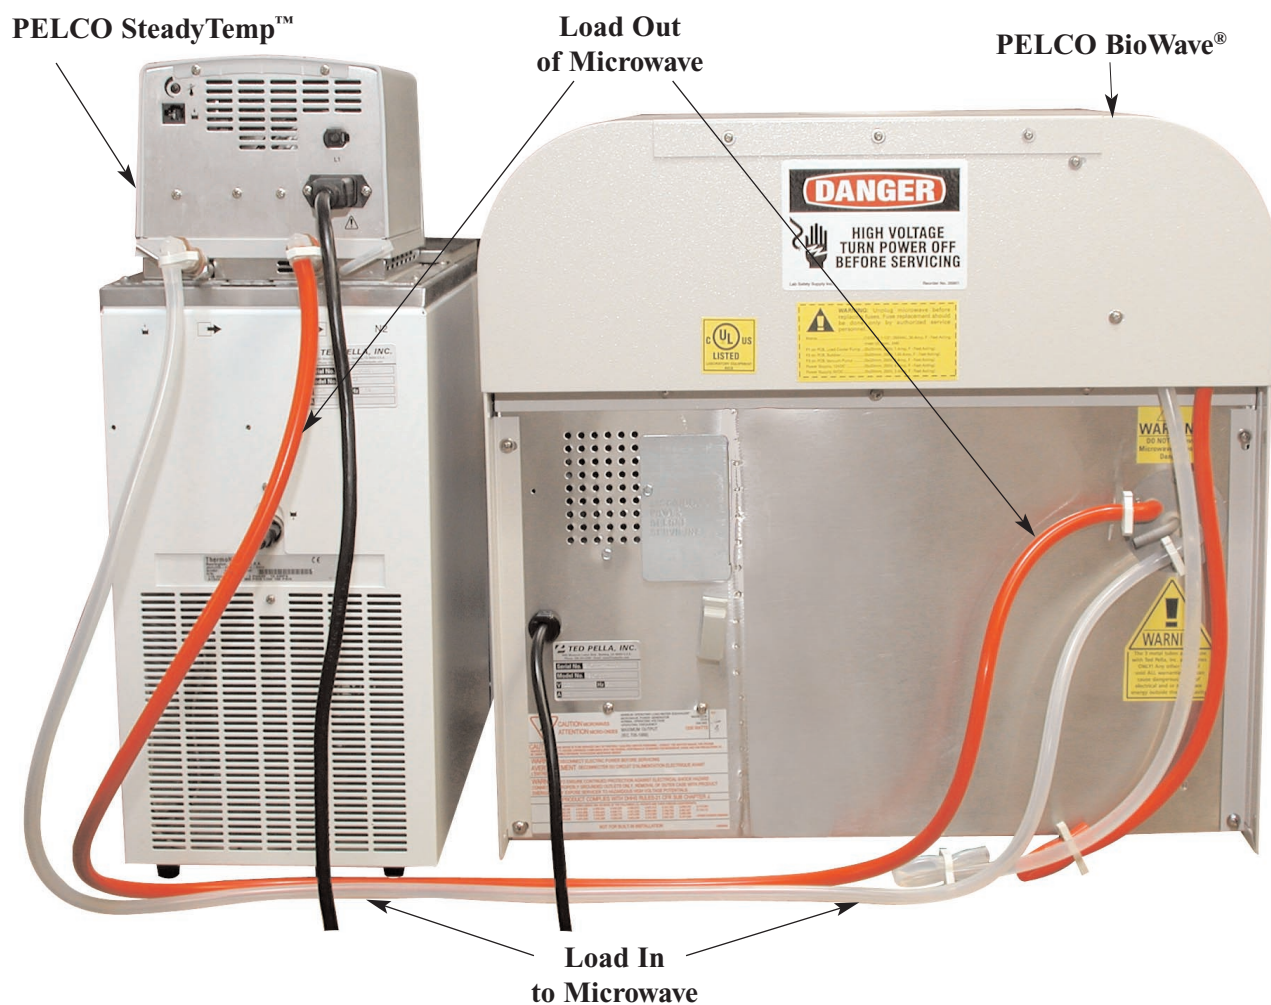

Figure 9 Connections: PELCO SteadyTemp™ to the PELCO BioWave® when using the PELCO ColdSpot®
- The designations of the "Load In" and "Load Out" ports on the PELCO ColdSpot® are different when used with the SteadyTemp™ than when used with a Load Cooler. See Figure 9 and Figure 11 for an explanation.